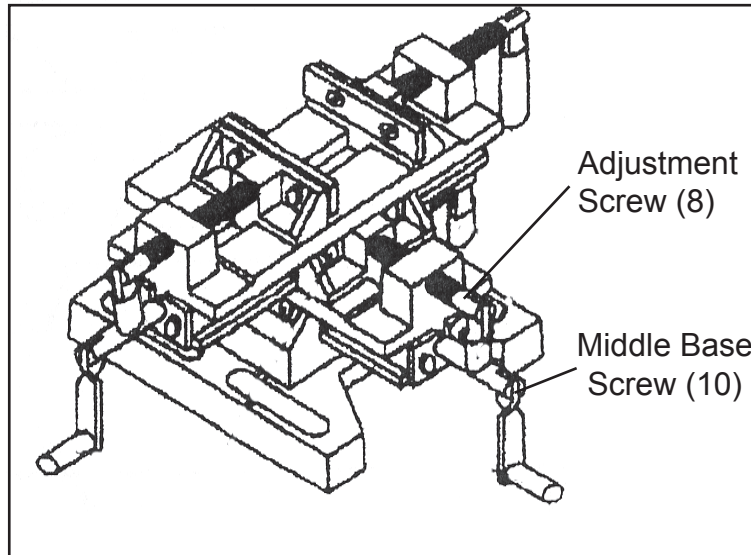

Figure 2
1. The Adjustment Screw (8) and Middle Base Screw (10) are for adjusting the tension on X/Y movement. Use the thumbscrews to hold the Adjustment Screws (8 & 10) at the desired tension. **See Figure 2 and Parts Diagram, page 7.**